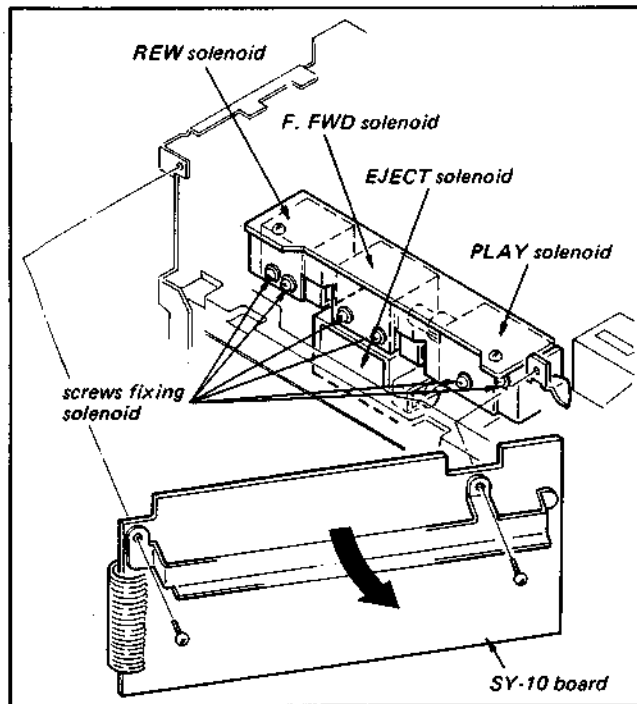
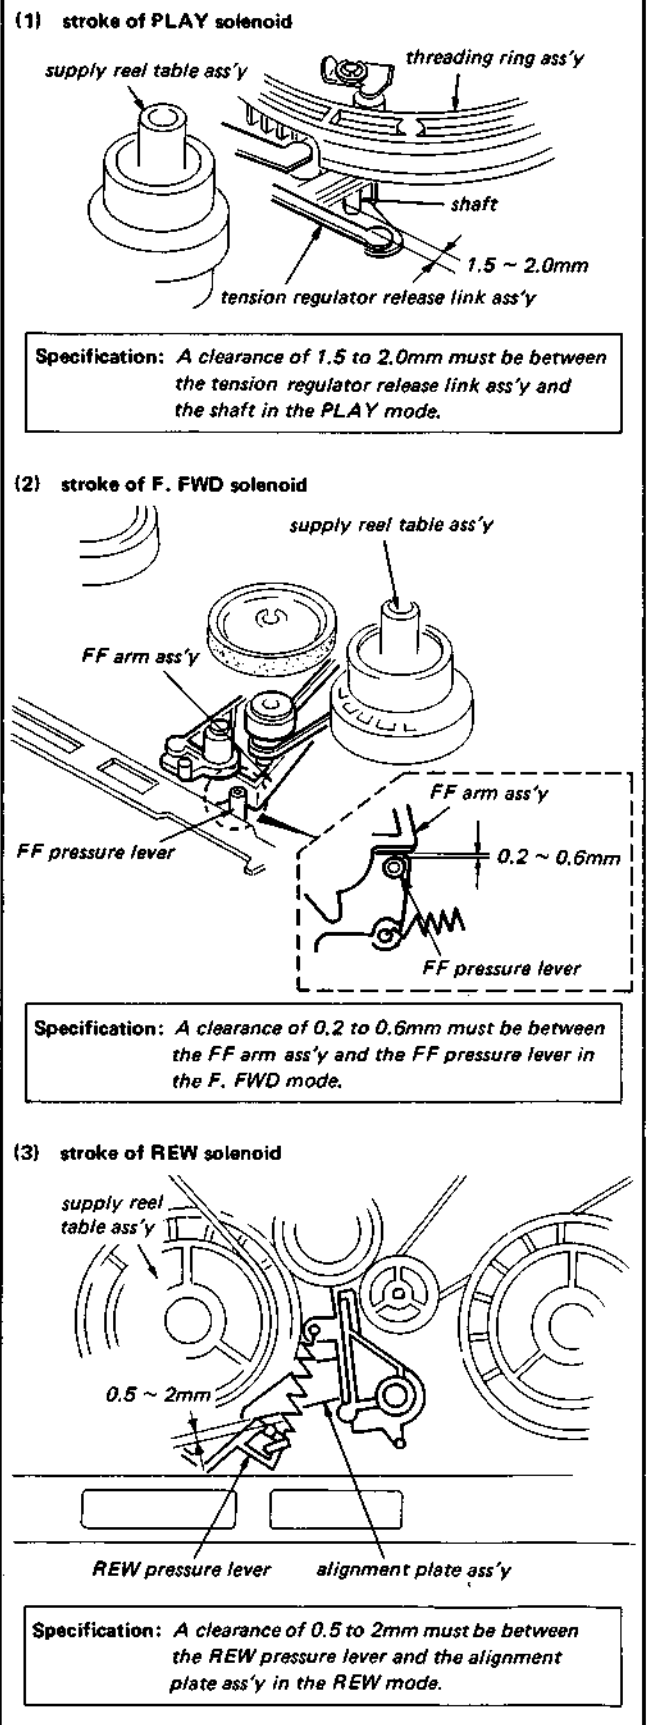

Fig. 3-17. Position adjustment of function solenoid
Fig. 3-18. Specifications of PLAY, F. FWD, and REW solenoid strokes
The four solenoids shown in Fig. 3-17 require careful adjustments because these solenoids are the driving force for the PLAY, F. FWD, and other tape operations. (As to the position adjustment of the EJECT solenoid, refer to Section 3-8-2.)
4. Check that the solenoids satisfy the specifications in Fig. 3-18. If the specifications are not satisfied, loosen the screws fixing the solenoid and adjust the position of the solenoid. See Fig. 3-17.